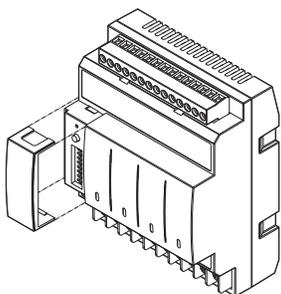

Figure 4: Location of DIP switches on modules
- a. Remove the DIP switch cover from the module. [Refer to Figure 4]